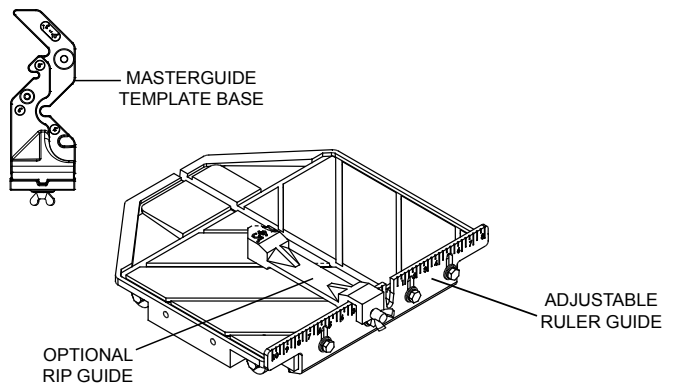

Figure 12. Cutting Table
- The ruler guide has inches and centimeters marked along the top to allow convenient measurements and to promote precision cuts. See Figure 12.
1. Set the template base (Figure 12) by positioning it on the desired dimension on the cutting table and tightening the universal clamp to the table. Make sure that the template base is firmly tightened. The template base can be used for 90° rip cuts from both the left and right side. The 45° diagonal cuts are quickly achieved with the specially designed fitted notches on the template base of 4", 6", 8" and 10"~14" tiles (Note the specifically shown dimensions on each notch).
1. Set the rip guide (Figure 12) at the desired location on the ruler guide and tighten the threaded knob. Make sure that the rip guide is firmly tightened to avoid slippage. The rip guide can be used for 45° and 90° cuts.